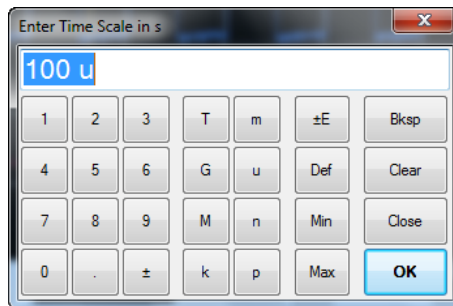

Figure 2-16 Horizontal scale keypad dialog
- 2 The horizontal scale keypad dialog is displayed as shown in Figure 2-16.